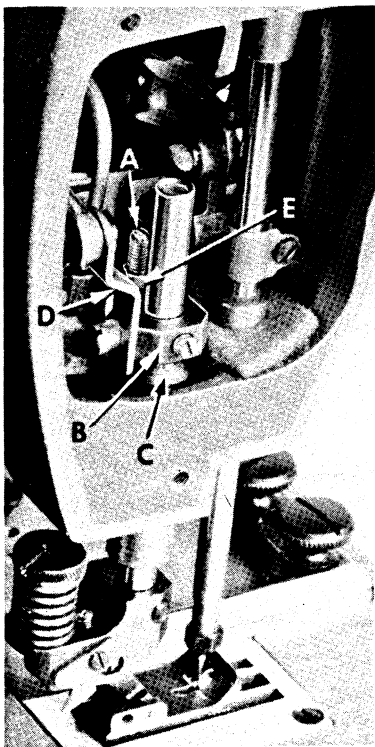

Fig. 16
Remove the presser spring regulator and presser spring. Adjust long stop screw (A, Fig. 16) in presser bar guide (B) against bed casting as required to ensure a clearance between the guide and top of presser bar bushing (C), yet so that guide is pulled up quickly by lifter lever link (D) when foot treadle is activated. Tighten lock nut (E) on stop screw.